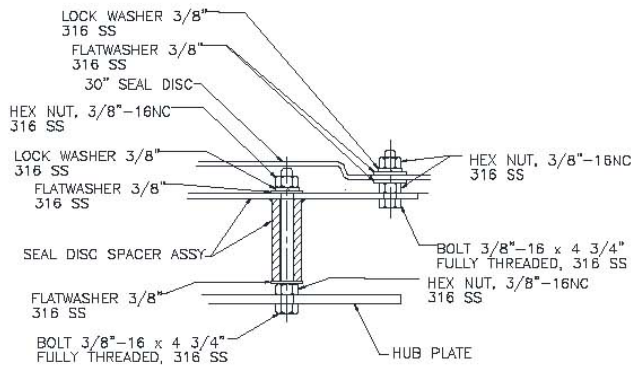
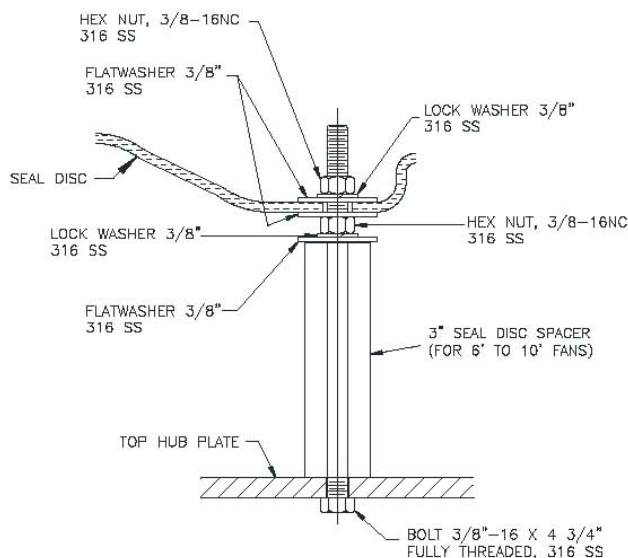

Figure 10: For 5' Dia. Fan Assemblies
Figure 11: For 6' to 10' Dia. Fan Assemblies
Fasten seal disc to top of hub with four (4) 3/8" cap screws, as shown in Figures 9. See Figure 10 for 5' fans, Figure 11 for 6' to 10' fans, and Figure 12 for 11' to 12' fans. Tighten to recommended standard of 15 ft-lb (lubricated) or 20 ft-lb (dry).